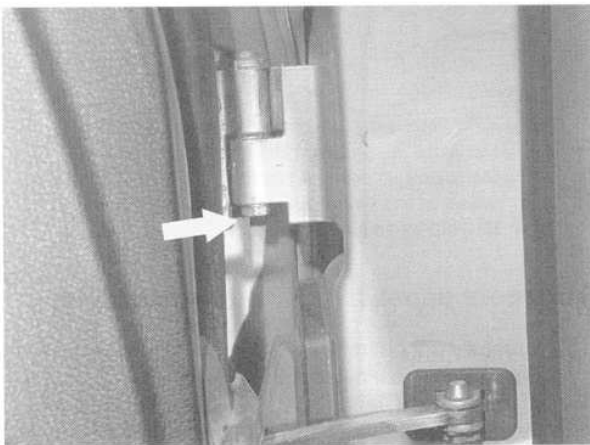

Fig. 1. Door hinge pin bolt (arrow). Top hinge shown. Also remove pin bolt from lower hinge.
1. With door fully open, remove pin bolts from top and bottom door hinges. See Fig. 1.